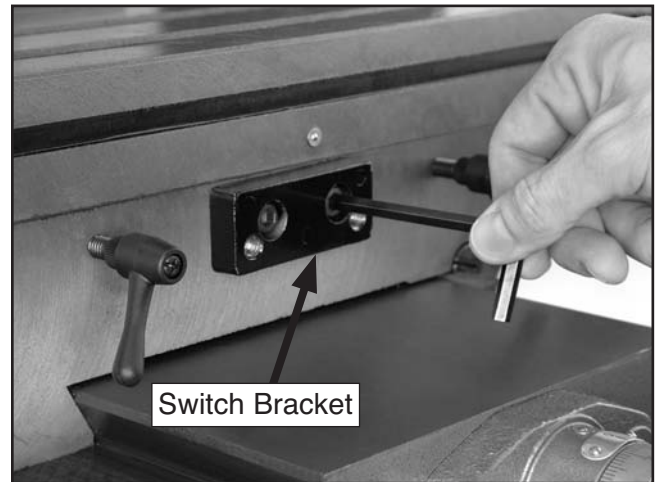

Figure 16. Limit switch bracket.
9. Secure the switch bracket to the front of the Mill/Drill. Use the mounting bolts saved in **Step 8 (Figure 16)**.